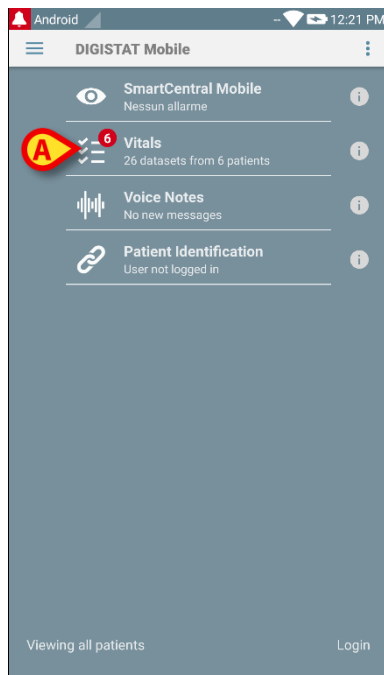

Fig 41
- Touch the corresponding row on the handheld device screen (Fig 41).